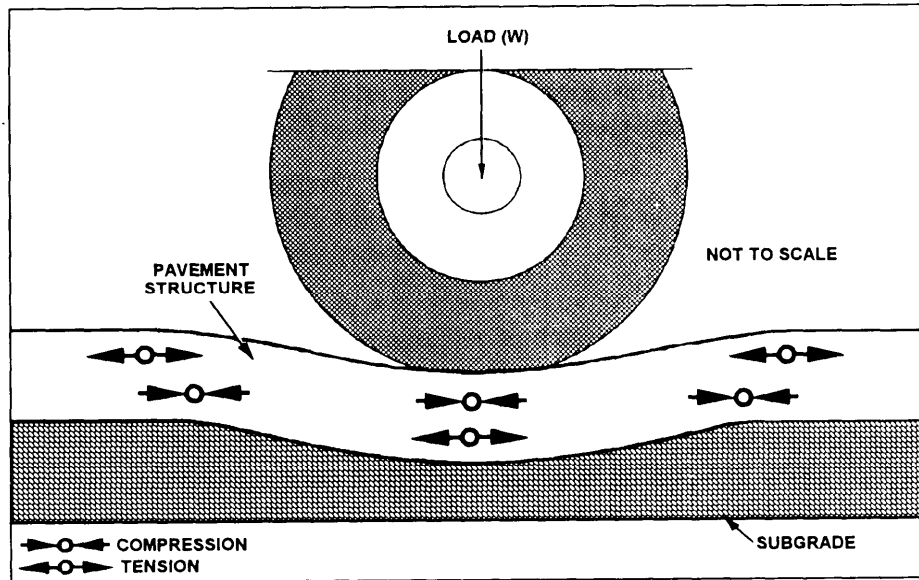

Figure 16-5.—Pavement deflection results in tensile and compressive stresses in pavement structure.
example, figure 16-5 shows how wheel load (W) slightly deflects the pavement structure, causing both tensile and compressive stresses within the pavement. Untreated granular bases have no tensile strength; therefore, asphalt bases spread the wheel load over broader areas than untreated granular bases. The result of this is that less total pavement structure thickness is required for an asphalt base.